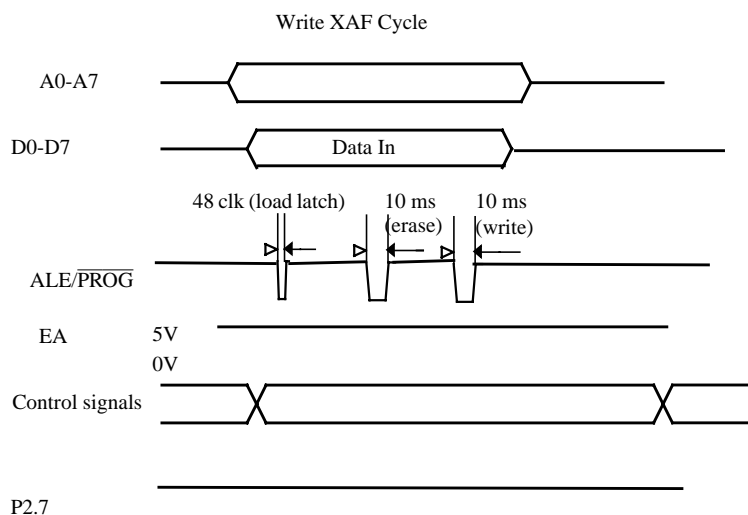

Figure 5. Write Extra Row Area Signal's Waveform
- Step 9: Pulse ALE/ $\overline{\text{PROG}}$ twice until P3.2 is high or the specified write time is reached. (See Figure 5)